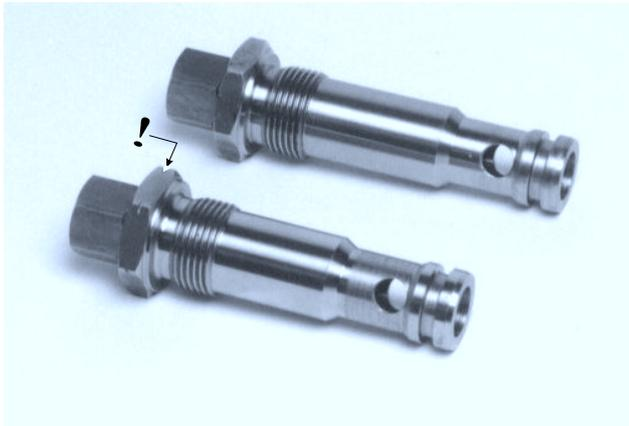

Fig.56: Oil pressure regulators
1. The control pressure regulator (equipped with a groove in the hexagon nut, see lower regulator in Figure 56, Page 32) fitted in the right-hand side of the pump can be taken out with a ring spanner or socket spanner 41, provided that the oil discharge filter has been removed.